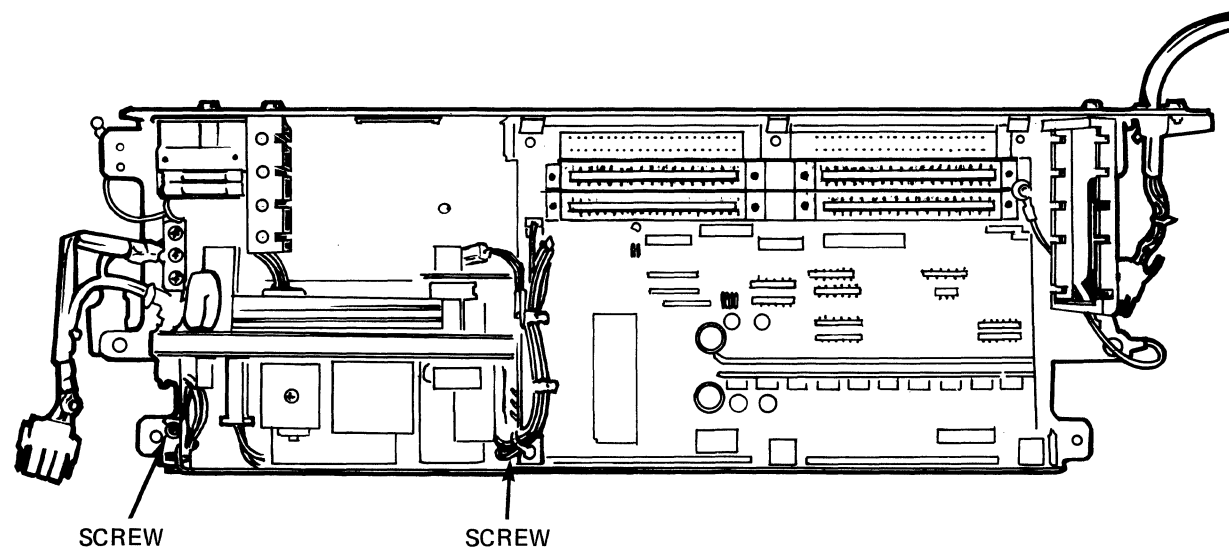

Figure 4-9 Power Supply - Top View
- j. Remove the power supply mounting screws (see Figure 4-9) and lift out the power supply.